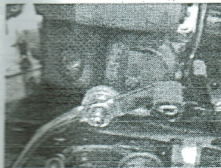

Fig. 1c
1.4 The serial number of gearbox is embossed on the left hand side of gear case. (Fig.1c)